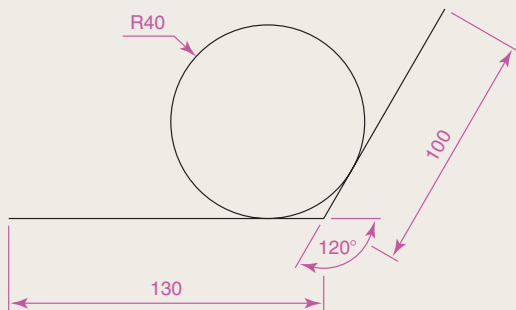

Fig. 2.33 Exercise 6
- Using the **Line** tool construct the two lines at the length and angle as given in Fig. 2.33. Then with the **Ttr** prompt of the **Circle** tool, add the circle as shown.